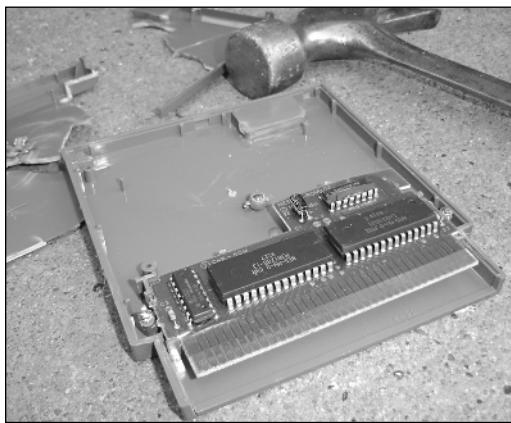

FIGURE 1-2: The guts of a NES cartridge.
- **Abnormally large cartridges.** The NES takes some of the largest cartridges of any game system ever. Why, you ask? Well, not because they have a lot of guts in them; in fact, they're 75 percent empty space (see Figure 1-2)! Nintendo didn't want the American version of the NES to look like a video game system because video games were still considered to be dead when it was released. Therefore, the cartridge was made to insert like a VCR tape and was sized to look quite different from the Atari 2600 or the Colecovision cartridge. A portable unit can be only as small as its biggest part, and the giant NES cartridge requires the case of your portable to be bigger, and also takes up valuable space that could be used for other things, such as batteries. This creates an interesting challenge in building the portable.